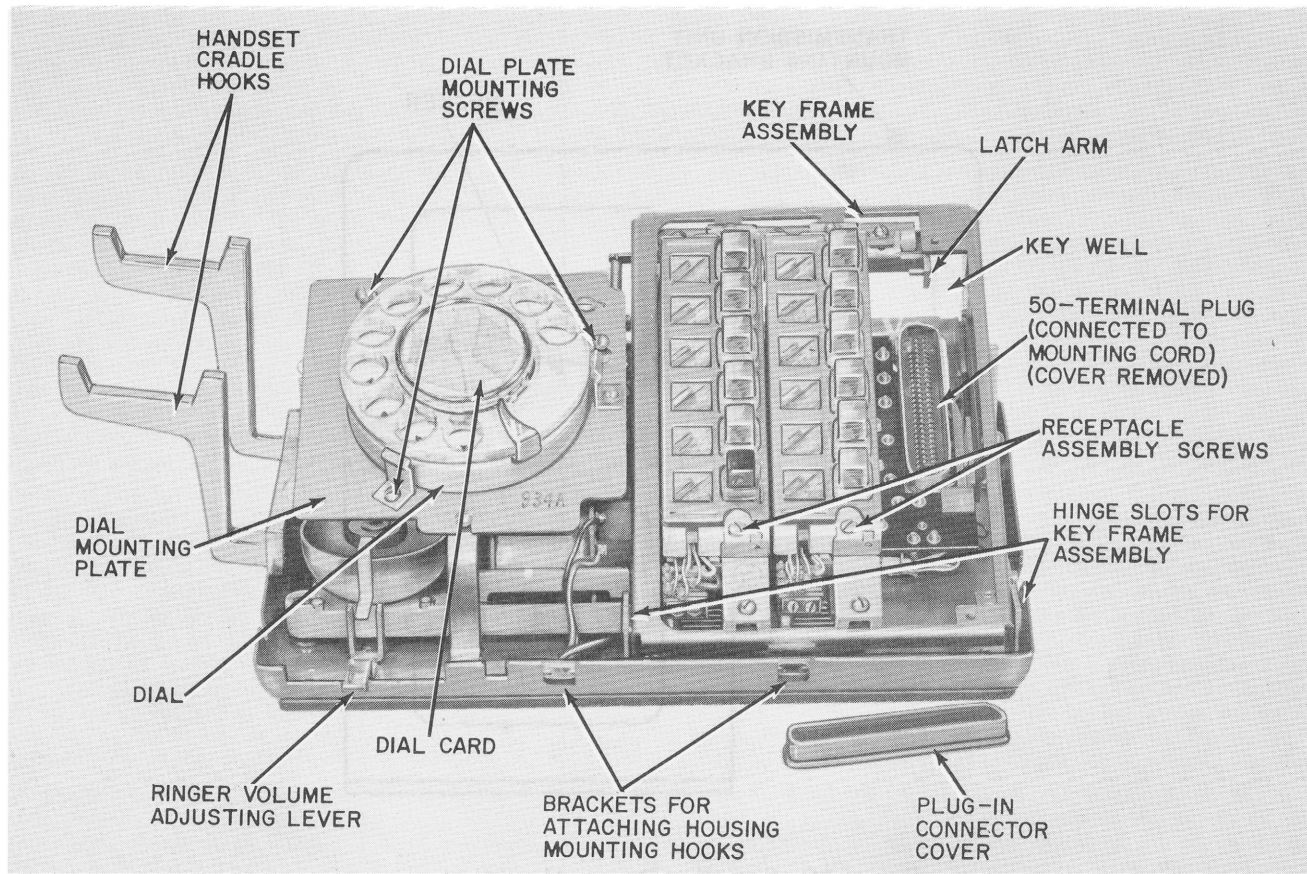

Figure 12. Rotary Dial Type 860B Key Telephone with Housing Removed.
- (1) Remove the telephone set housing as instructed in Paragraph 6.02.
- (2) Loosen the three dial plate mounting screws (Figure 12).
- (3) Move the dial and mounting plate assembly toward the rear of the set and lift off.
- (4) Remove the plastic dust cover from the dial, and disconnect all the dial leads. Note the connections.
- (5) Remove the three dial mounting screws and lift the dial assembly free of the dial mounting plate.
- (6) Place the new dial assembly in the dial mounting plate, and re-install the dial mounting screws.